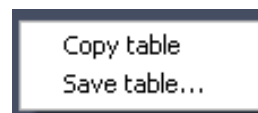

Fig. 715 Table export menu
**Table** will display the coordinates of the horizontal and vertical profiles of the correlation and the fit / residuals if activated that can be copied or saved via a right mouse click from the **Table Export** menu (Fig. 715);